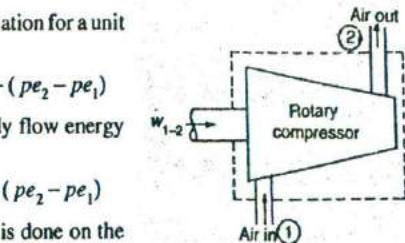

Fig. 3.34. Rotary compressor.
6. *Rotary compressor*. A rotary compressor, as shown in Fig. 3.34, is a device which compresses air and supplies the same at moderate pressure and in large quantities. The rotary compressor is insulated so that no heat transfer takes place (i.e.  $q_{1-2} = 0$ ). In other words, the flow through a rotary compressor is adiabatic.